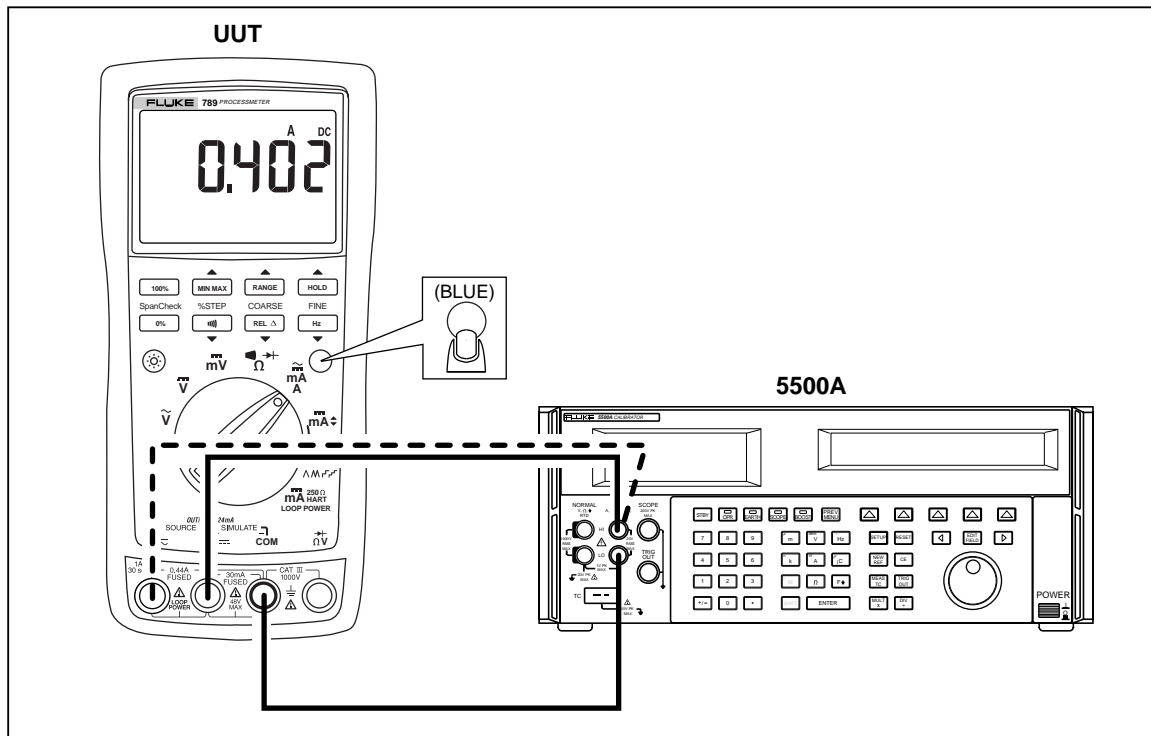

Figure 4. Current Measurement Test Connections
3. Connect the calibrator to the **COM** and $\overset{\sim}{\text{mA}}$ terminals on the UUT as shown in Figure 4.